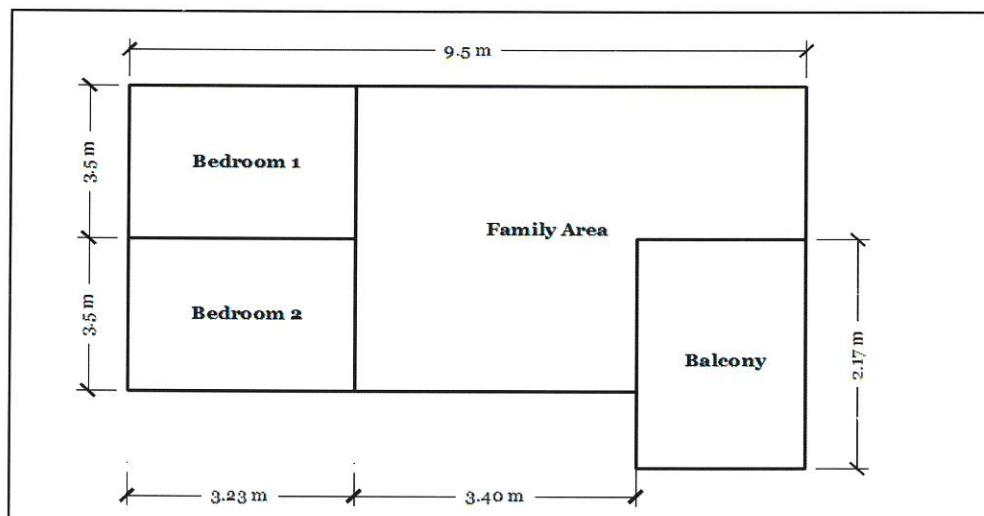

Figure B1(c) / Rajah B1(c)
- CLO2 (c) Based on Figure B1(c), estimate the building cost by using Floor Area Method. Assume cost for $1m^2$ is RM 550.00/m 2 .